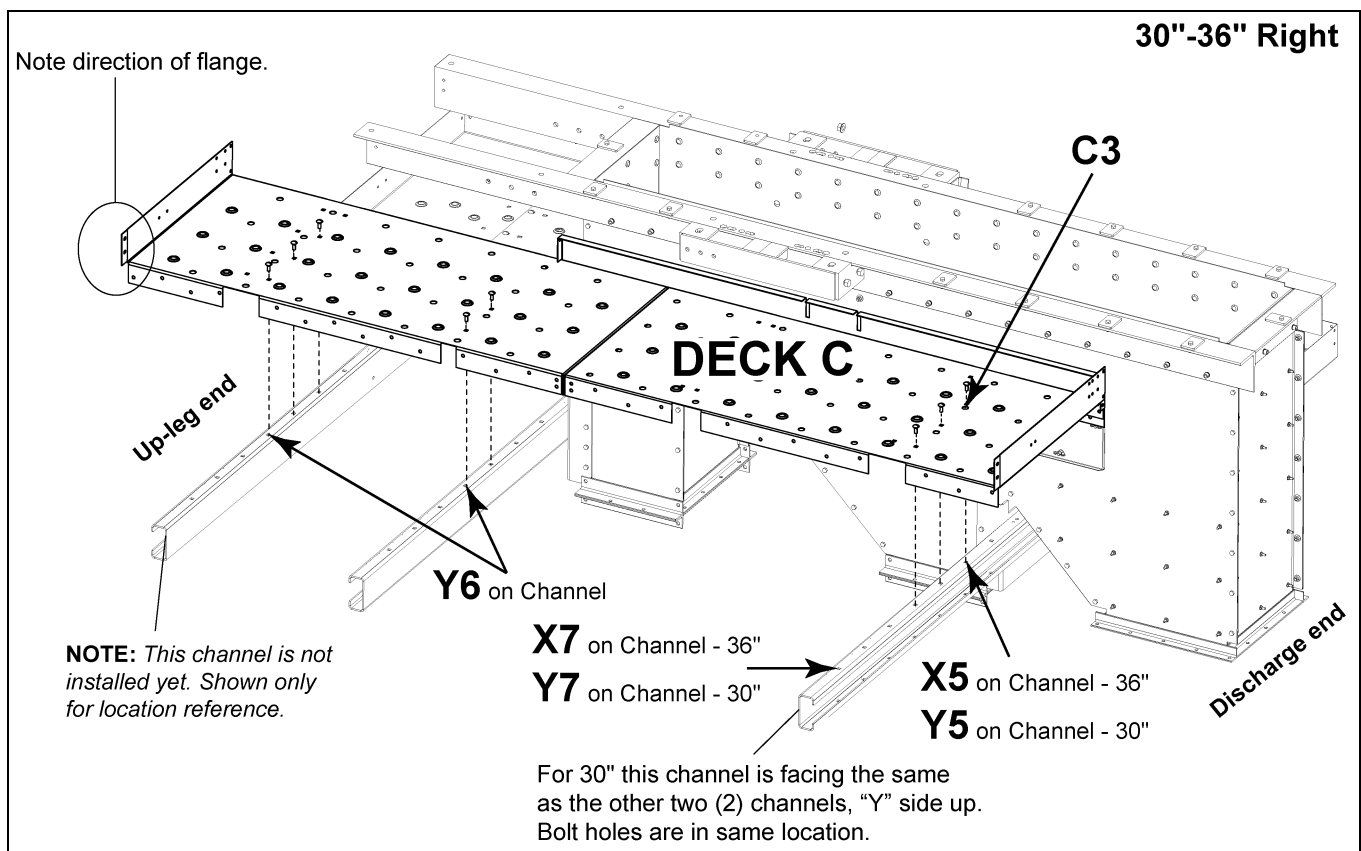
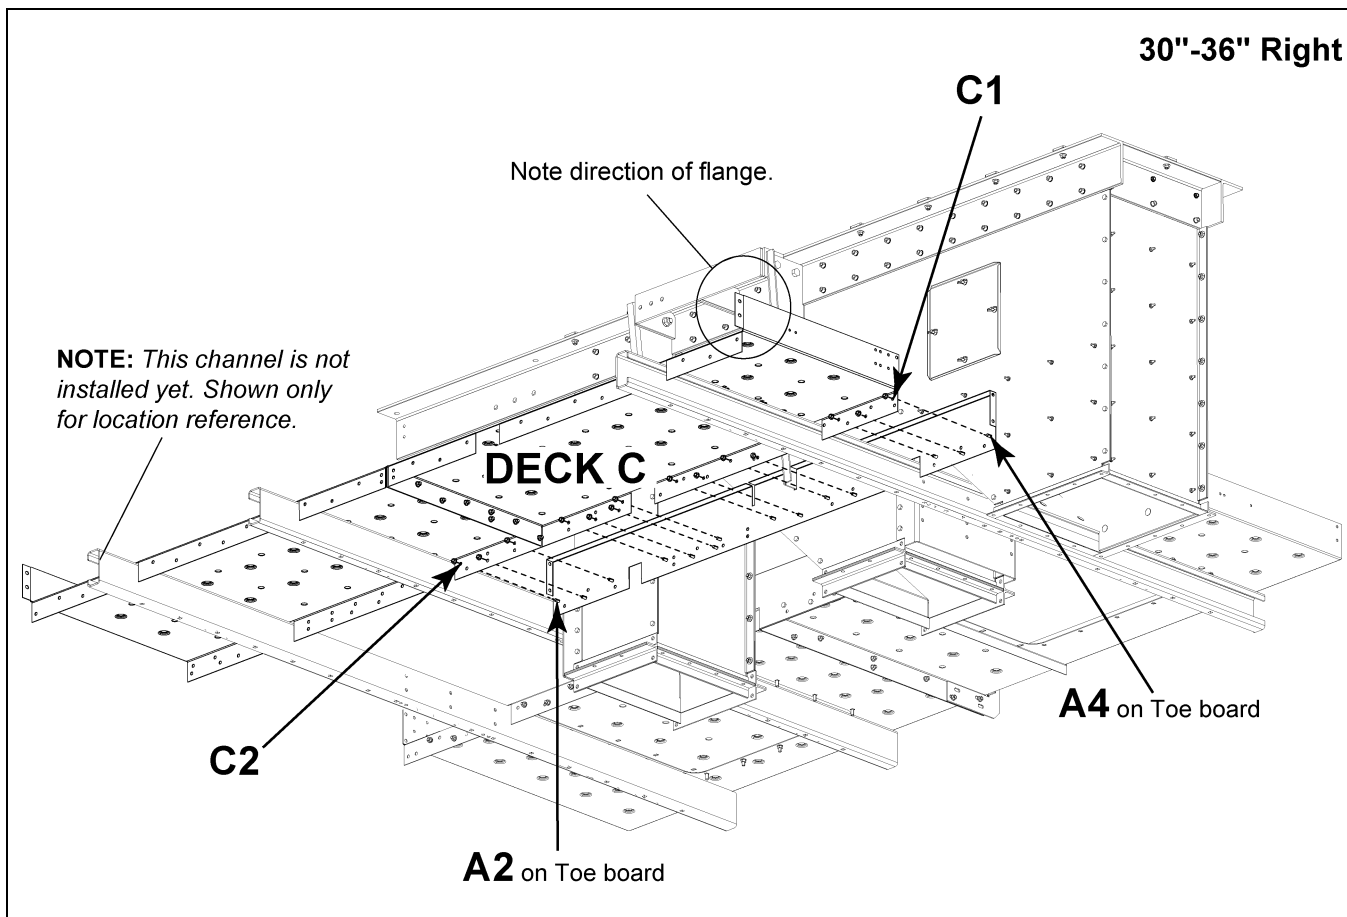

Figure 8J Deck C to Cross Deck Support Channels
Figure 8K Underside View of Deck C to Toe Board
1. Locate the pre-assembled Deck C. This deck consists of two (2) planks.
3. Make sure the extended kick plate flange of Deck C is away from the lower head assembly. (See Figure 8J below and Figure 8K on Page 55.)
5. Connect cross deck support channel and Deck C using 3/8" x 1" carriage bolts (S-3585) with flange nuts (S-10028). Connect all holes between channel and deck. (See Figure 8J.)